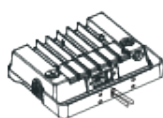

figure 8.2
Step 2: Put the core wire through the waterproof rubber plug, through the bracket fixing seat and match with the waterproof rubber plug. (Figure 8.2)